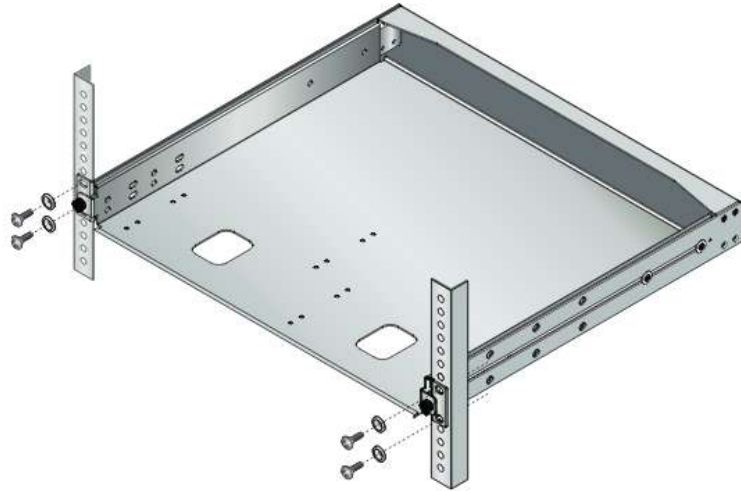

Figure 32. Installing the AT-RKMT-J15 Tray in a n Equipment Rack
2. Mount the AT-RKMT\_J15 tray in a 19 -inch equipment rack using four equipment rack screws. See Figure 32 on page 64.